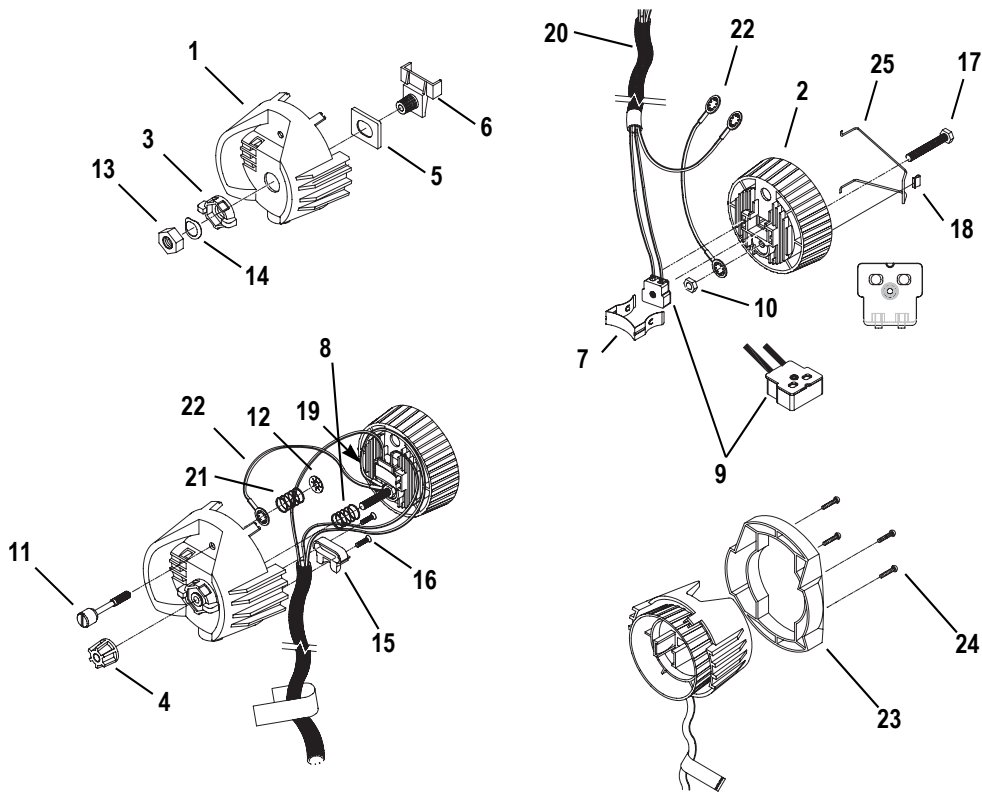

Figure 2
Step 15: Using the four screws (24), attach the handle (23) to the lamp socket assembly. See Figure 2.
Step 16: Place the compression spring (8) on the protrusion on the inside of the index hub (6).
Step 17: Insert bolt (17) through spring (8) and through the index hub (6) of the housing socket (1), joining the two castings. Make sure wires are not pinched between the two pieces.